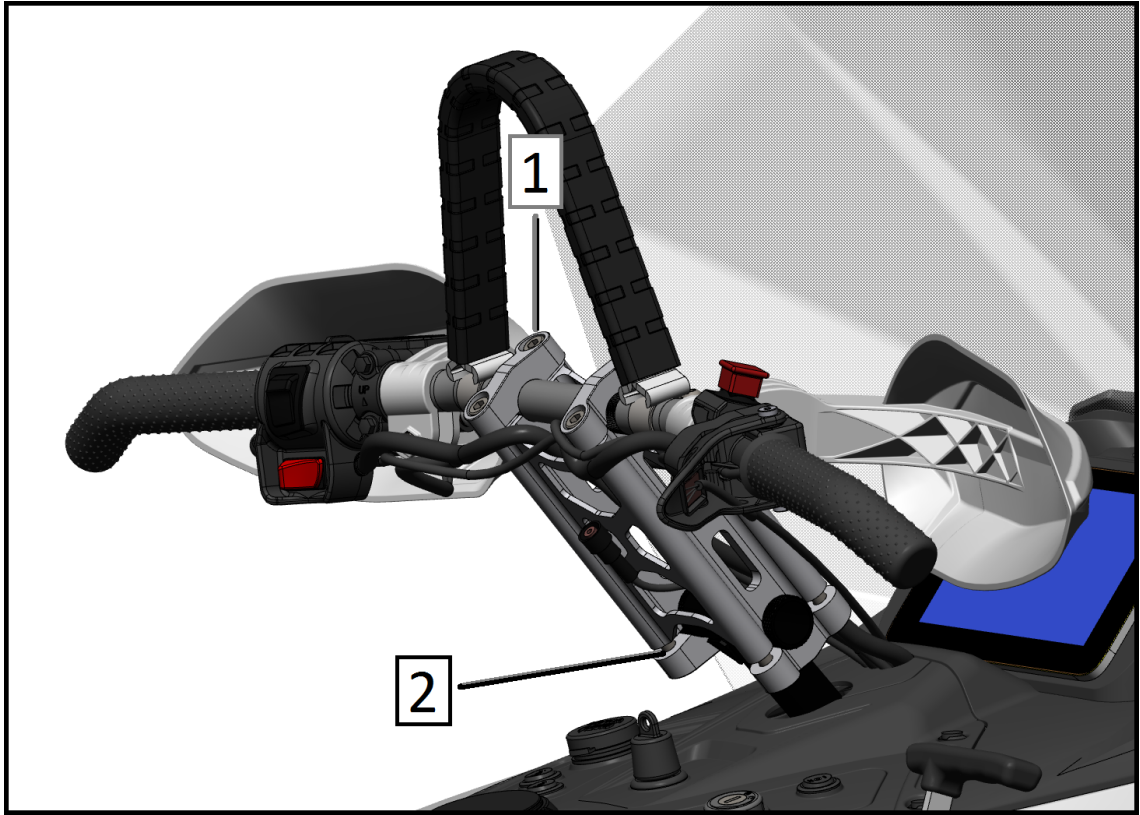

Fig. 8
- Loosen the lower screw (Pose 1, Figure 8) in a 6 mm hexagon to change the position of the steering wheel by changing the tilt angle of the steering column.
- Loosen the upper screw (Pose 2, Figure 8) with a 6 mm hexagon to change the steering angle in the steering column.